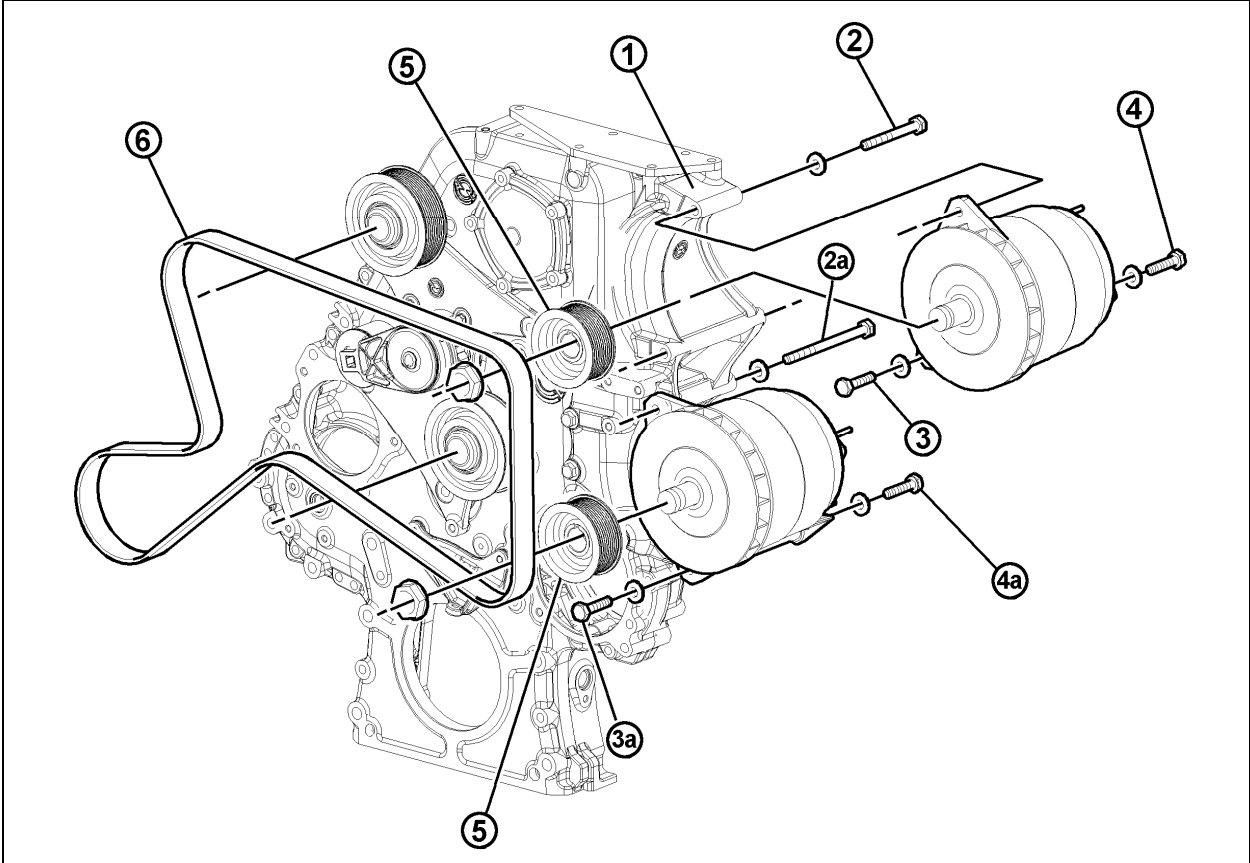
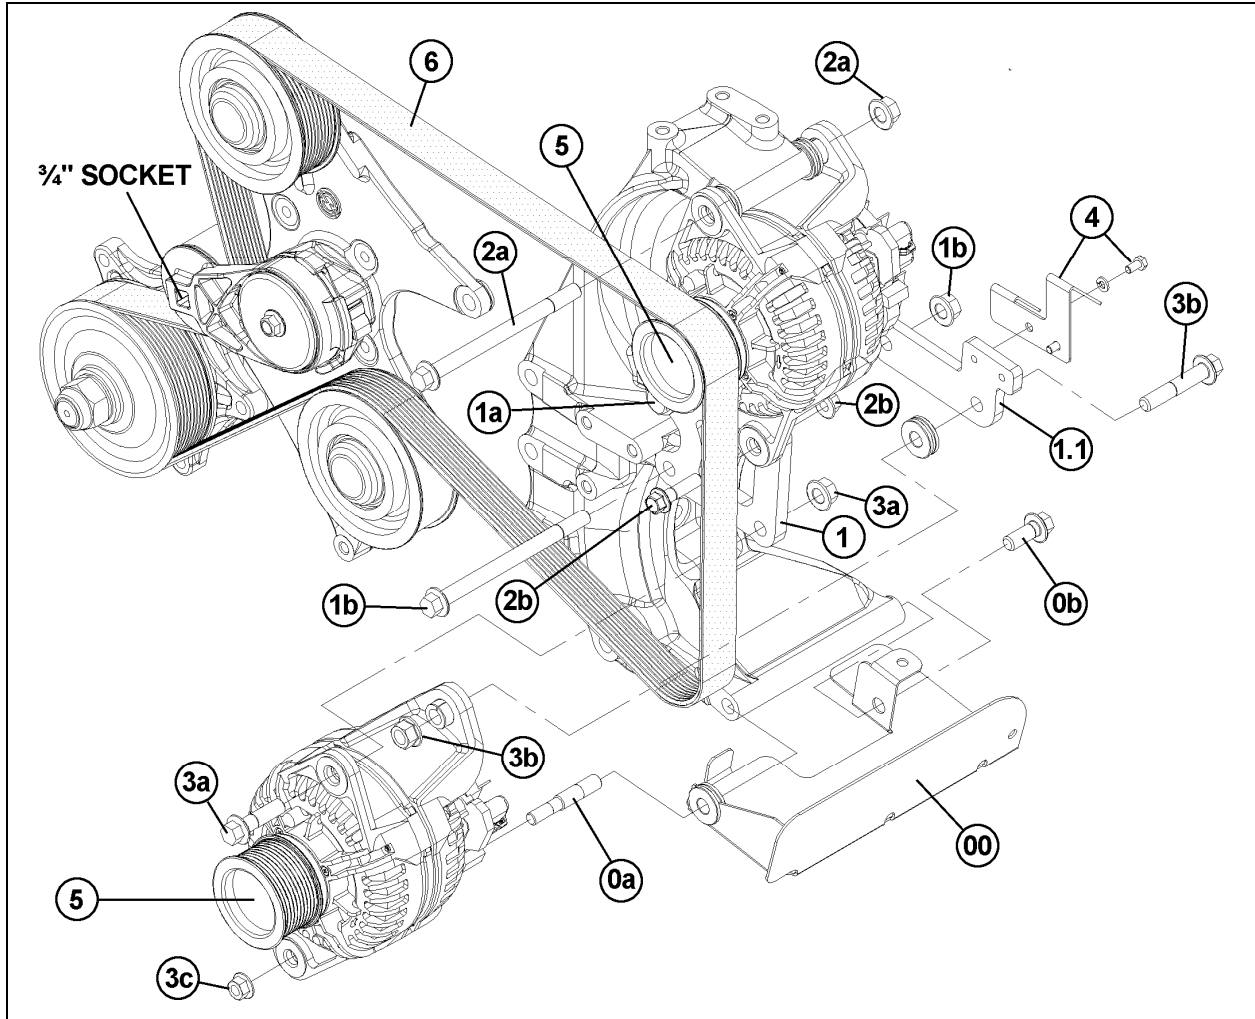

FIGURE 19: TWIN BOSCH ALTERNATORS INSTALLATION WITH DDC SERIES 60 ENGINE (VIP MOTORHOMES) 01077
FIGURE 25: TWIN BOSCH HD10 ALTERNATORS INSTALLATION (H3 SERIES COACHES)
1. Install alternator mounting bracket (1, figure 19) to the gear case. Use the four flanged phosphor alloy bolts on the pulley end of the
2. Bolt the upper alternator to the bracket using the 4 inch bolt at the top (2, fig 19) and two inch bolts at the lower mounting bosses (3 and 4, figure 19). Bolt the other alternator using the 6 inch bolt at the top (2a, fig 19) and two inch bolts at the lower mounting bosses (3a and 4a, figure 19);
3. On the drive shafts of both alternators, install key, pulley, spring washer and nut (5, figure 19);
6. Install alternators belt (6, figure 19).
1. Insert a 3/4 inch socket drive into the automatic belt tensioner opening (fig. 19).
1. If necessary, reinstall protector (00, figure 25) to the alternator support assembly. Use the stud (0a, figure 19) and bolt (0b, figure 25) to fix the protector. Use some Loctite 262 red (688910) onto the threads.
2. If removed, reinstall ring bracket (1, figure 19) and L-shaped bracket (1.1, figure 25). Fix the ring bracket using bolt (1a, figure 25) and also bolt and nut (1b, figure 19) for the ring bracket and L-shaped bracket. Use some Loctite 262 red (688910) onto the threads.
3. Mount the upper alternator using bolt and nut (2a, figure 25), and also bolt and nut (2b, figure 25).
4. Mount the lower alternator using bolt and nut (3a, figure 25), and also bolt and nut (3b, figure 25). Fix the lower portion of the alternator using nut (3c, figure 25).
5. Mount the cable bracket (4, figure 25) and fix using bolts (4, figure 25).
6. Mount pulleys (5, figure 25) onto alternators.
7. Install alternators belt (6, figure 25).
4. Insert a 3/4" socket drive into the automatic belt tensioner opening (Fig. 25).